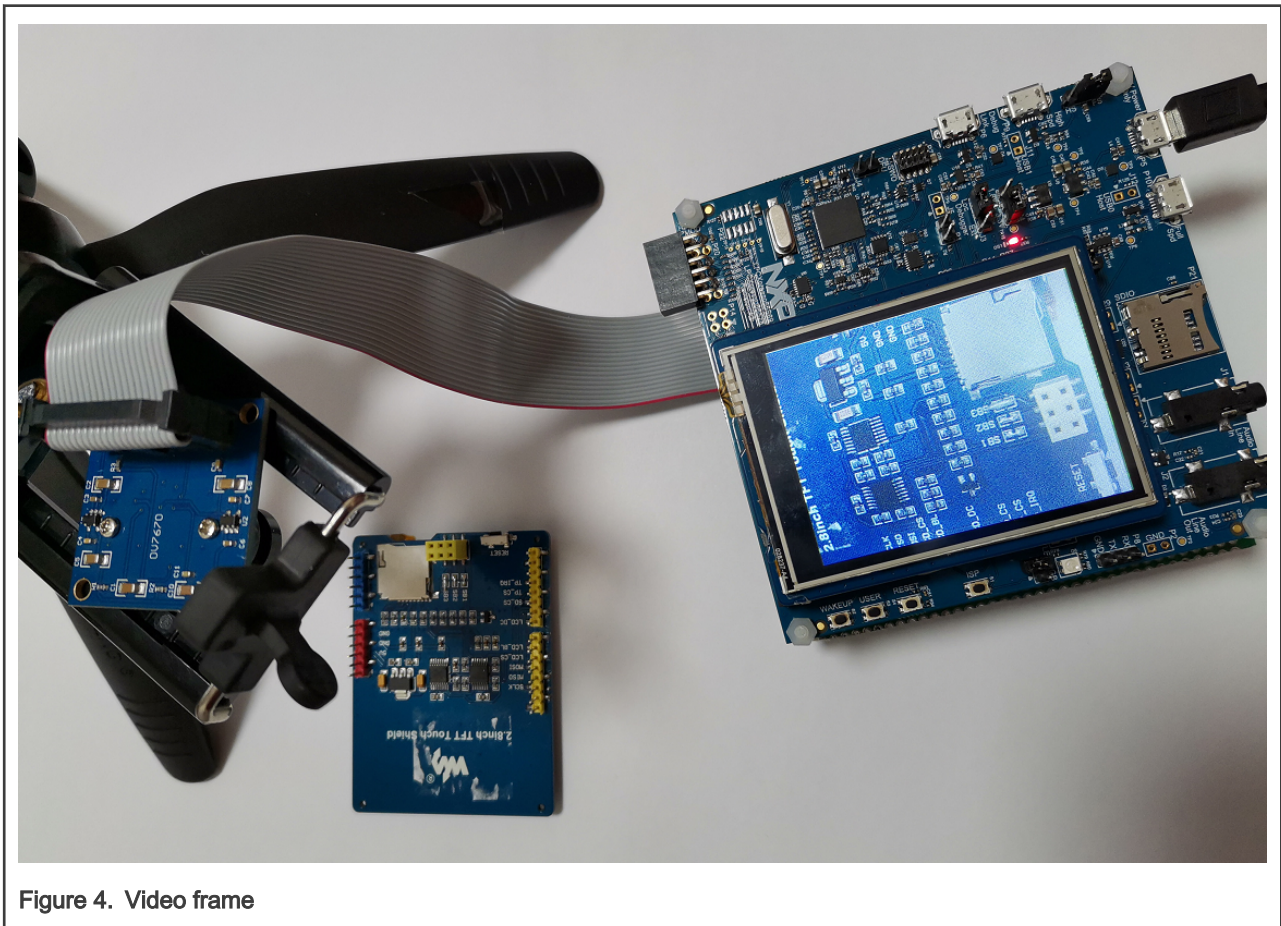

Figure 4. Video frame
6. The LCD displays the video frame from camera as shown in Figure 4.